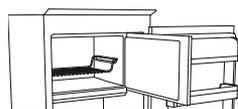
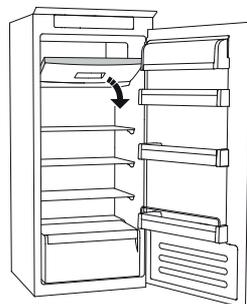

figure 1
figure 2
- arrange the food on the grille, if present (figure 1), or directly on the bottom of the compartment (figure 2)
- put the food in the middle of the *** **** compartment without it coming into contact with food that is already frozen, keeping a distance of about 20 mm (figure 1 and 2).
The **STOP FROST SYSTEM** (available depending on the model) facilitates the defrost procedure for the freezer compartment. The **STOP FROST accessory** (figure 1) is designed to collect some of the frost that forms in the freezer compartment and it is easy to remove and clean, therefore reducing the time needed to defrost the inside of the freezer compartment.
- Open the freezer compartment door and remove the upper drawer (figure 2).